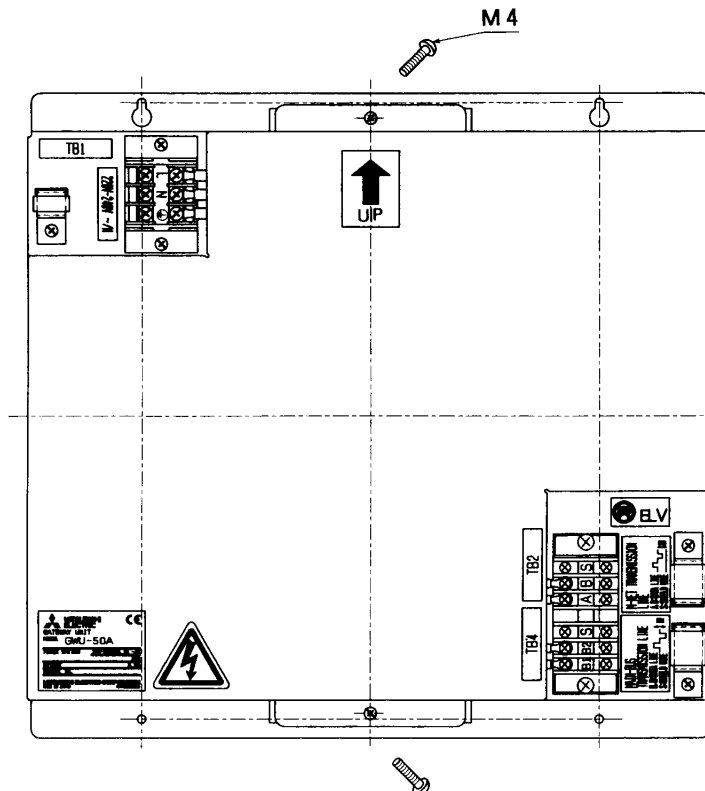

Fig. 5-1
(1) Remove the screw (2pcs) holding the cover to dismount the cover as shown in the Fig. 5-1.